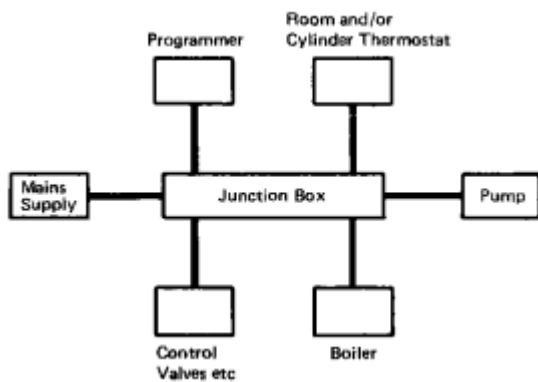

FIG. 5 PRINCIPLE OF WIRING
7. WIRING - See Figures 5 to 11
The boiler terminal strip is not designed to accept wiring from all the on-site system controls and therefore, the installer will need to incorporate a suitable junction box. The principle of wiring the boiler and its controls is shown in Figure 5. However, the layout of a particular system will itself govern the most economical location for the junction box and its terminals.